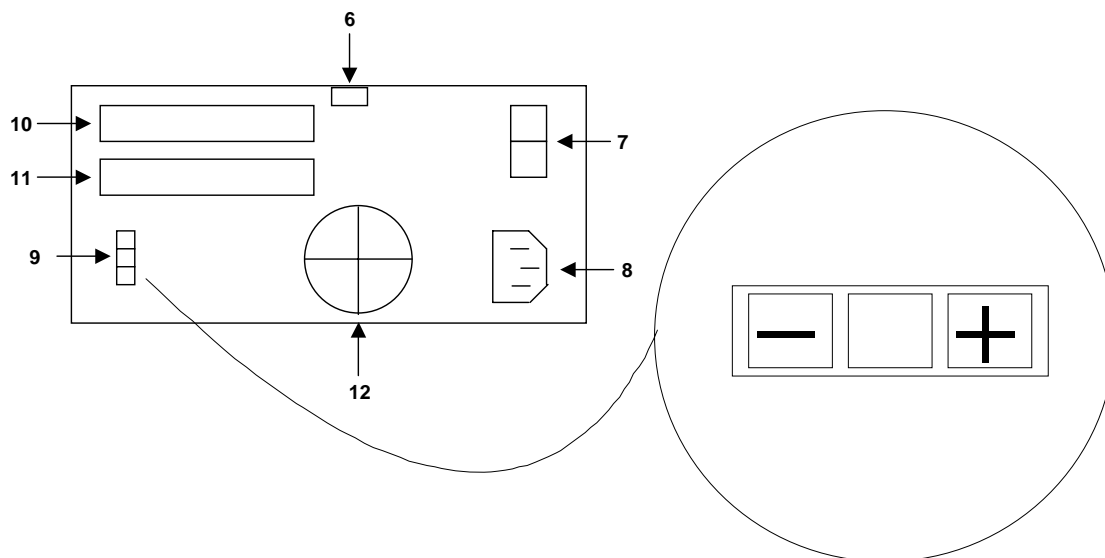

Figure 92 : DAT Tape drive SCSI configuration
- Locate the SCSI ID switch on the rear panel of the tape drive (Figure 92).